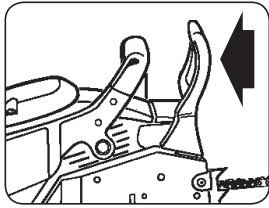

Fig. 5A
1. The chain brake is disengaged (chain can move) when brake lever is pulled back and locked (Fig. 5A).